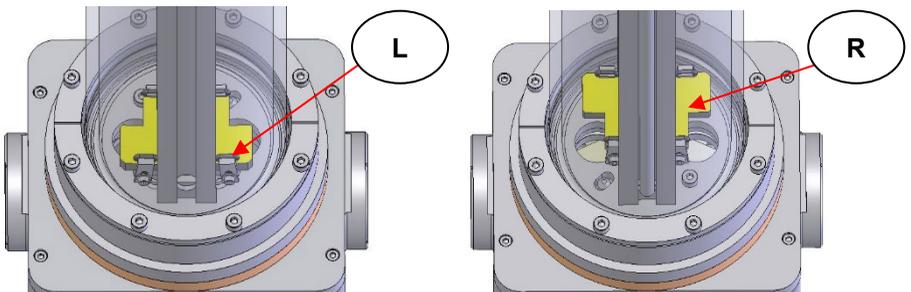

Fig 7. Orientation of FM for (LR) or (RL) Beam Direction
Important Note: For the Cyclone™ gas cell build itself, for LR (source to detector) optical systems the field mirror (FM) in the gas cell will be oriented such that it appears as an inverted 'T' when the gas cell has been installed in the spectrometer and viewed from the front or above. For RL optical systems the field mirror (FM) will be oriented as an upright 'T' when viewed from the same position. (See Fig 7.) This ensures that the micrometer adjustment screw for adjustable pathlength cells will be operating the output objective mirror OM2. (See adjustable pathlength option in Section 11, page 57).
The Cyclone™ gas cell is easily adapted if you need to operate it in a spectrometer system with a different beam direction (**LR** or **RL** source to detector) to that of your current spectrometer. Follow the instructions to separate the gas cell body from the optical unit (1) in Section 9, page 34 of this manual (Cyclone™ Gas Cell Windows), for either the C2 or C5 and C10 cells. (It is a slightly different procedure for the different size of cells). Then refit the gas cell to the optical unit (1) with the appropriate number of M4 fixing screws after rotating the cell body through 180°. The T shaped **FM** will now be in the opposite direction as viewed from the front of the optical unit (1). (See examples as Fig 7, page 17). In this way, a cell that was suitable for a **RL** beam direction can be used in a **LR** spectrometer system, or vice-versa.